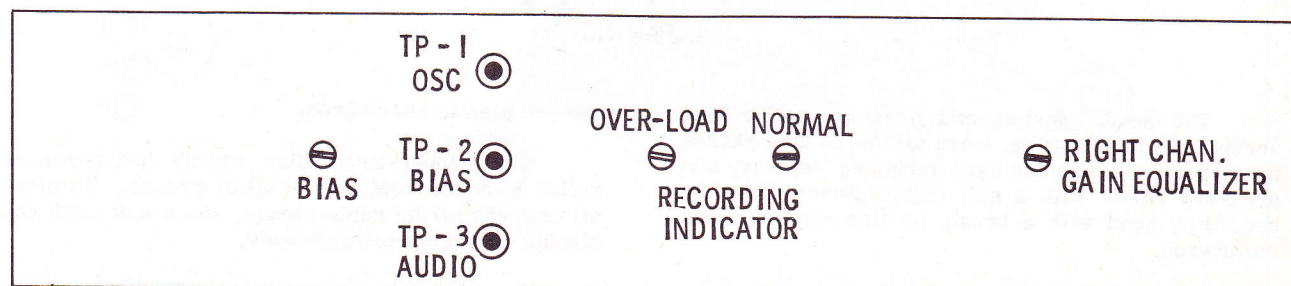

FIG. 3 AMPLIFIER ADJUSTMENTS
To adjust firing level of recording indicators, the mechanism must be in the cabinet. Refer to Fig. 3 for location of adjustments.
8. Adjust gain control (R5) to obtain the same indication on the output meter as was noted in Step 7. For location of gain control, refer to Fig. 3.
To adjust recording bias level, the recorder must be in the cabinet. For location of adjustments, refer to Fig. 3.